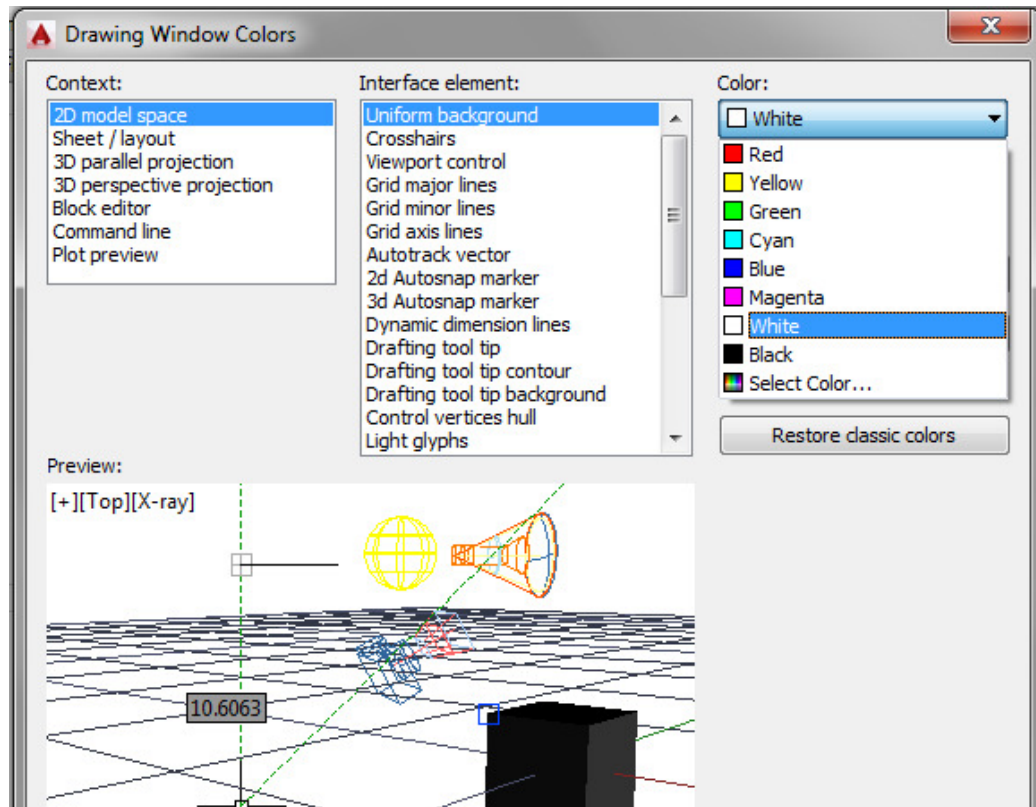

Figure Step 28
Step 28 Click the Colors button to open the Drawing Window Color dialogue box. Highlight 2D model space, Uniform Background and then select the color White as shown in the figure. (Figure Step 28)